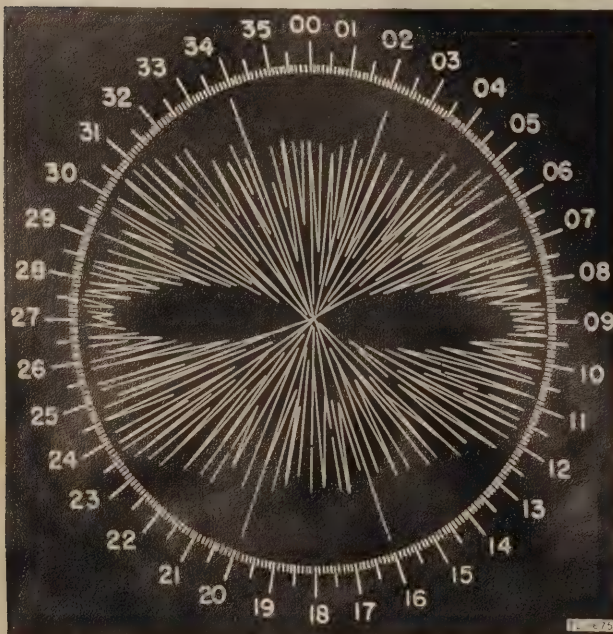

Figure 111. Bearing indicator pattern, very weak signal.
(6) *Very weak signal* (fig. 111). With very weak signals, the SENSITIVITY control must be so far advanced that the noise pattern predominates and shifts rapidly. The shifting noise pattern reduces the accuracy with which an azimuth bearing can be determined,
Occasionally, the signal may fade in (increase) sufficiently to give a momentary pattern like that shown in figure 111.